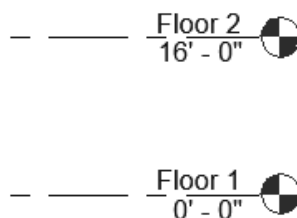

Figure 1–24
5. In the *Modify | Place Level* tab>*Plan Views* panel, select the checkbox for the **Create Plan View** option, as shown in Figure 1–25, and click **Plan View Types**.